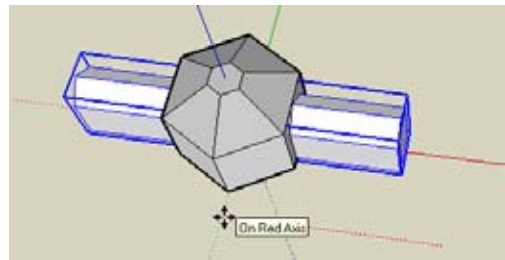

Figure 3-19
3. Move the group along the red axis so that it pokes all the way through the gazebo, as shown in Figure 3-19.